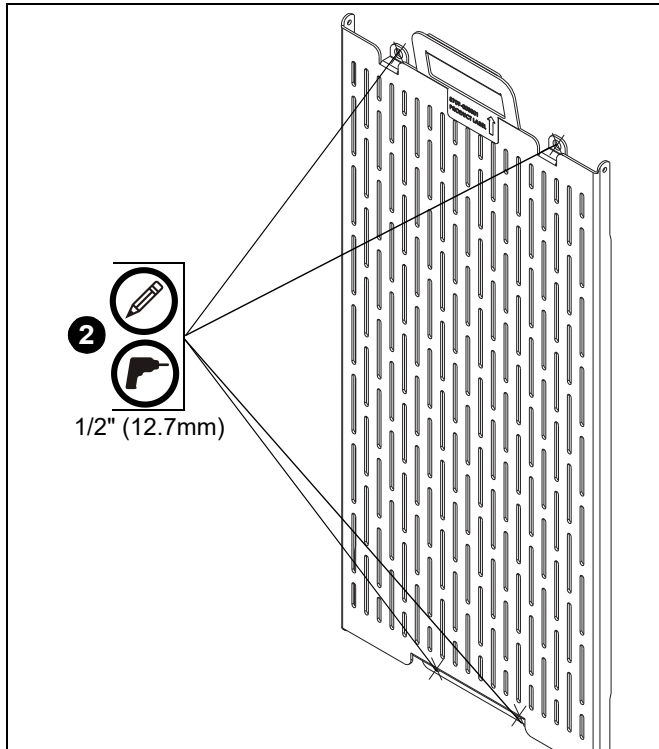

Figure 1
1. Position accessory wall plate (A) onto wall at desired mounting location. Use a level to ensure of an even mount. (See Figure 1)
2. Mark and drill four 1/2" (12.7mm) holes at the desired mounting locations. (See Figure 1)